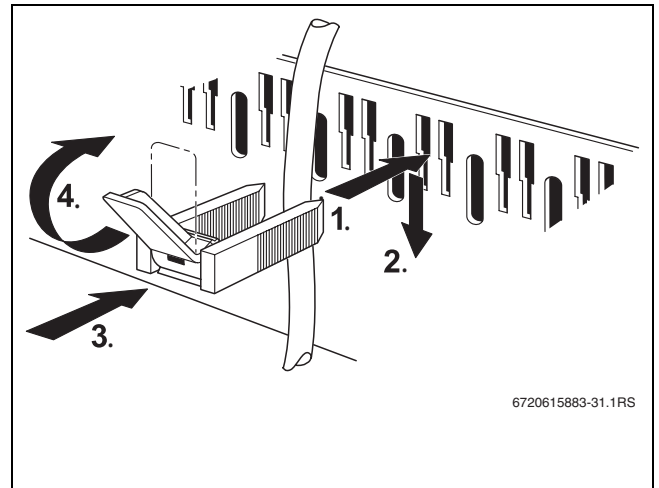

Fig. 19 Securing the cable with cable clips
1. With the cable in place, insert the cable clips, as shown in Fig. 19, from above into the slits in the clip frame.